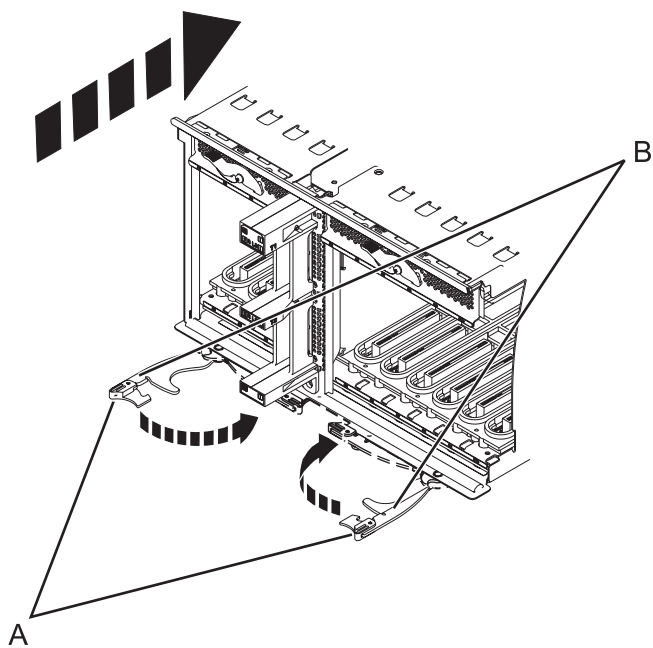

Figure 82. Install the I/O system board on a rack-mounted model
9. Insert the I/O system board firmly into the server, as shown in Figure 82 on page 98.
10. Secure the I/O system board with the locking tabs (A), as shown in Figure 82 on page 98.